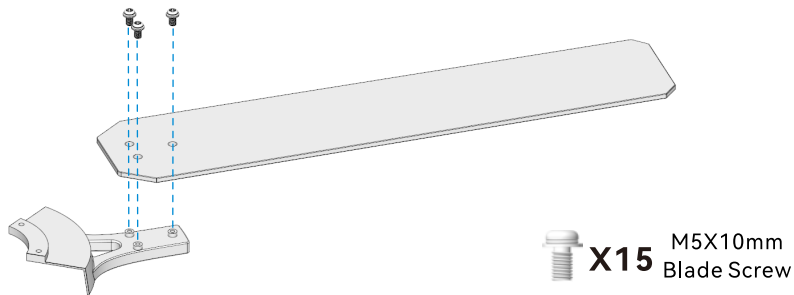

Fig. 2.1
2.1 Locate the 15 blade attachment screws included in the hardware pack. Use these screws to firmly attach each blade to the blade bracket, as demonstrated in Fig. 2.1.